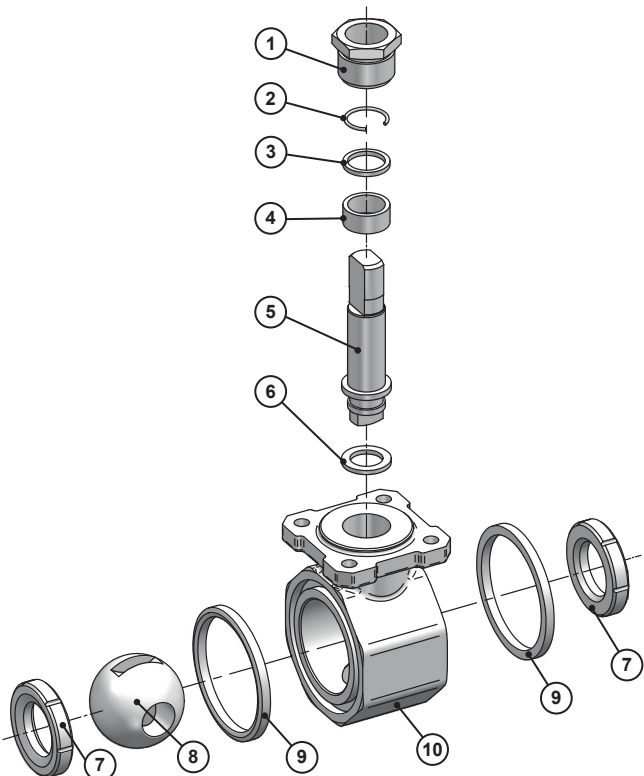

Fig. 22: Seals in the ball valve
6. Fit a ball seat in the housing. The 45° chamfer must point towards the ball (see symbol in Fig. 22). Make sure that the ball seat does not twist.
9. Fit the housing seals. One side of the seal is flat, the other is slightly convex. The convex surface of the seal must point outwards (see symbol in Fig. 22).